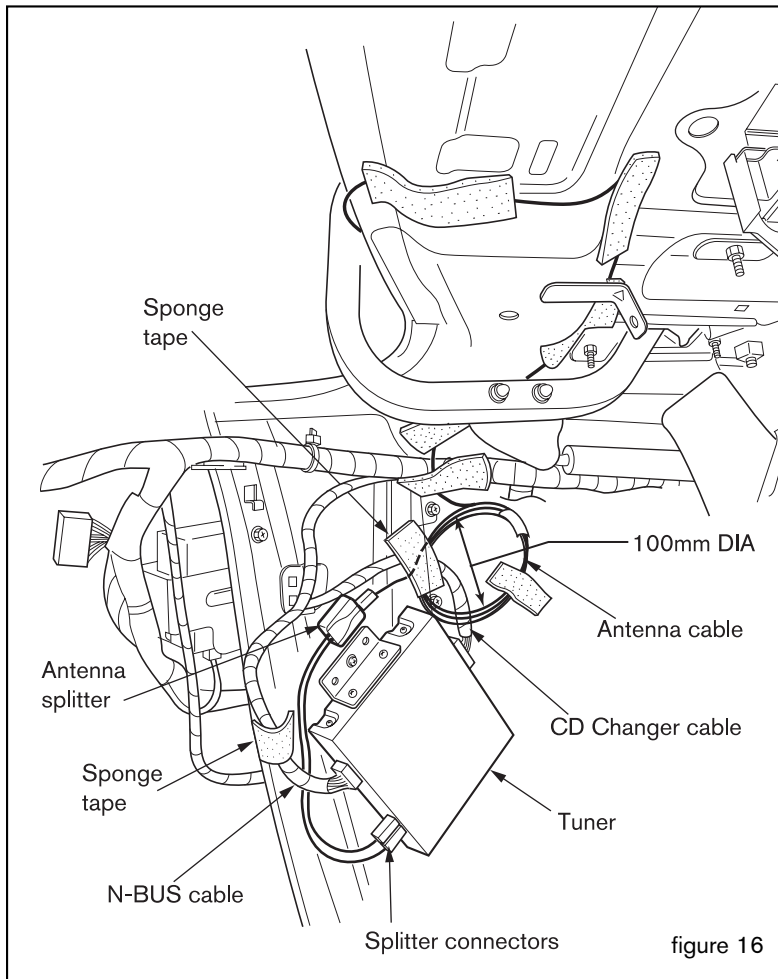

figure 16
- (11) Clean trunk panel with 50/50 alcohol/water solution where the splitter is to be attached.
- (12) Peel off the tape protector from the splitter. Place the splitter on the trunk panel and secure in position by applying downward force with hand pressure. (figure 16)
- (13) Insert antenna splitter cable connectors into corresponding tuner terminals.
- (14) Leaving enough length for the splitter connection, neatly coil excess antenna cable to create a loop 100mm (4") in diameter. (figure 16)
- (15) Connect the antenna cable connector to the antenna splitter.
- (16) Attach the antenna cable loop to the trunk panel with sponge tape at two locations. (figure 16)
- (17) Connect the N-Bus cable connector to the corresponding tuner terminal.
- (18) Connect CD changer cable to tuner.